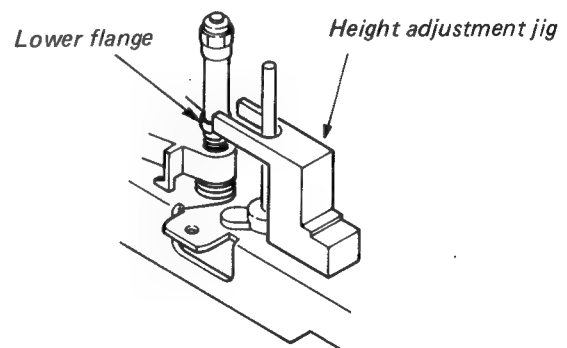
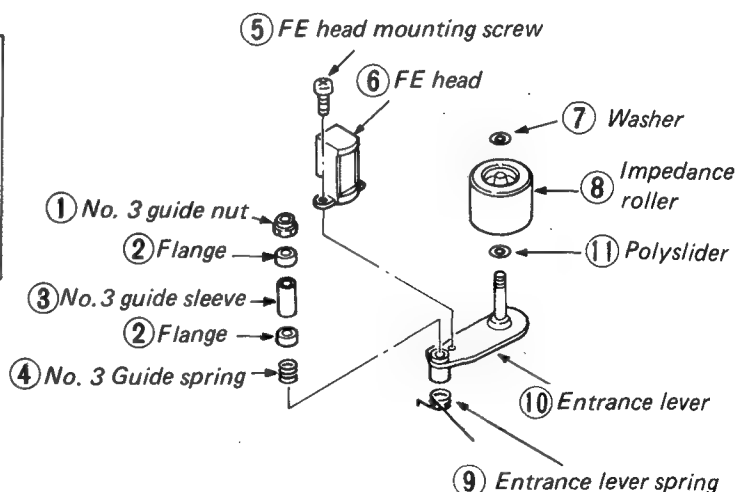

Fig. 1-3-19 No. 3 guide preset
Fig. 1-3-22 Replacement of No. 3 guide and FE head
- 1) Rotate the No. 3 guide nut ① counterclockwise and remove the No. 3 guide nut ① and flange ② as shown in Fig 1-3-22. When replacing a new flange, perform the above steps in reverse order.
- 2) After the replacement, preset height of the lower flange as shown in Fig. 1-3-19, using the guide height gauge.
- 3) After completion of preset, perform adjustments by following the procedures for Linearity Adjustment, item 4) of the Tape Transport Adjustment. (Refer to 1-4-4 (3))
Note: The flange ② arranged in upper and lower positions is a common part and can be used either place and upside down. (Fig. 1-3-22)
- 2) Remove the FE head mounting screw ⑤ and the FE head ⑥ will be removed. Refer to Fig. 1-3-22.
- 3) Replace the new FE head and tighten the FE head mounting screw ⑤.
- 5) The replacement of the FE head causes little change in linearity. But confirm whether the associated adjustments have been not upset, starting check from the linearity adjustment, item 4) of the tape transport adjustment. (Refer to 1-4-4 (3))
- 1) Remove the washer ⑦ and replace the impedance roller ⑧ as shown in Fig. 1-3-22.